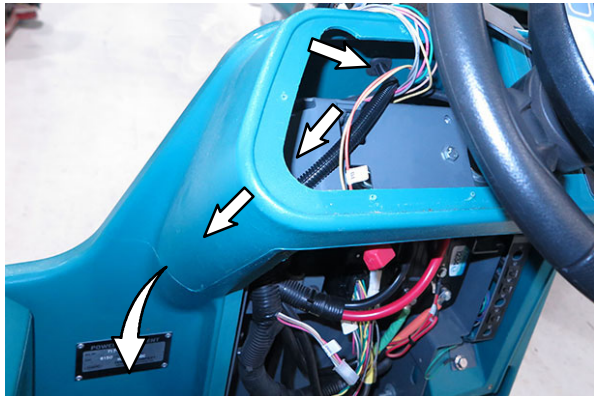
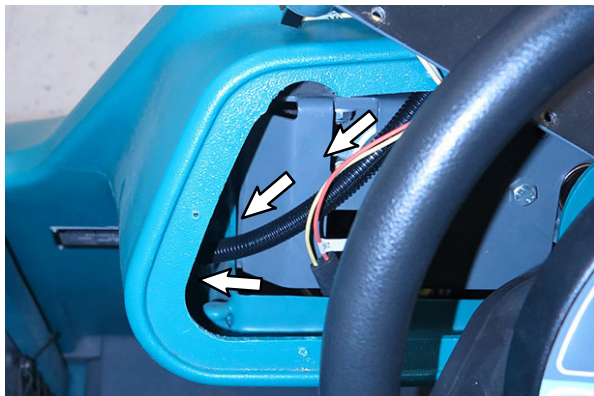

FIG. 7
FIG. 8
18. Route the blue spotlight harness (7) down the left side of the steering channel between the front shroud and steering channel, and into the operator compartment. (Fig. 7/ Fig. 8)